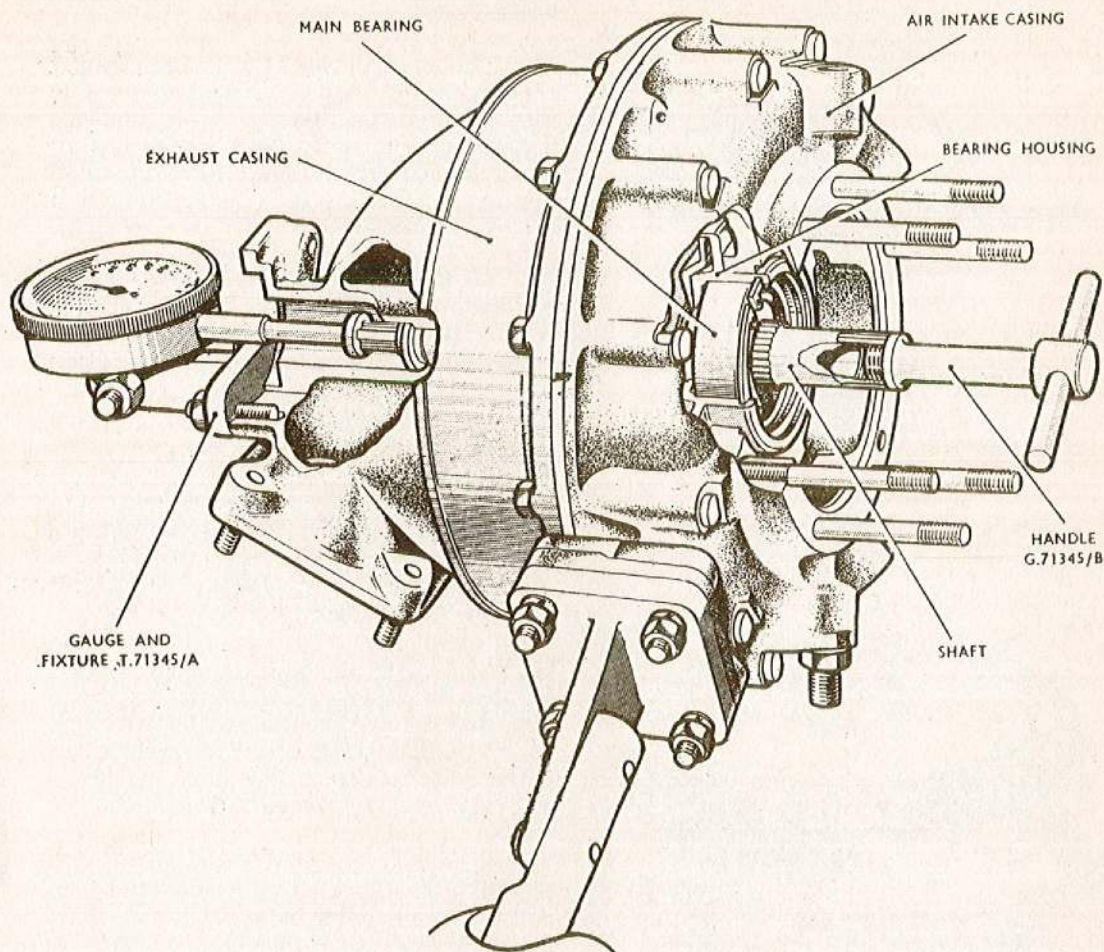

Fig. 10. Checking the main bearing for wear
54. Remove the four nuts, grover washers and plain washers securing the tail shaft access cover to the exhaust casing assembly, lift off the cover and fit in its place the dial test indicator G.71345/A as shown in fig. 10. Screw the handle G.71345/B firmly into the other end of the shaft and with the pump still mounted on the dismantling fixture push in the rotating assembly, set the D.T.I. to zero then pull the rotating assembly outwards by means of the handle. The